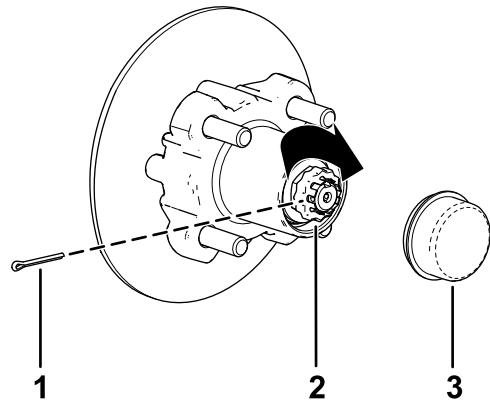

Figure 43
8. Install the retainer over the nut and check the alignment of the slot in the retainer and the hole in the spindle for the cotter pin (Figure 43).
9. Install the cotter pin and bend each legs around the retainer (Figure 43).
10. Install the dust cap onto the hub (Figure 43).